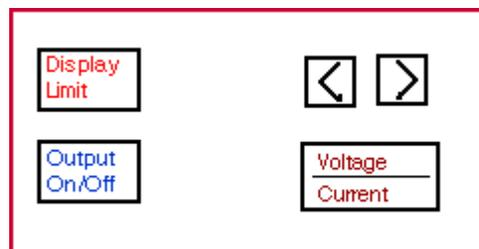

Figure 7: Front panel selections
2. Enable the outputs by pressing the **Output On/OFF** key (see Figure 7) The CV and +6V annunciators is on and +6V is selected. You can adjust the *blinking* digit to select the desired output voltage by turning the knob on the top right of the front panel. The display is in the *meter* mode, and shows the *actual* output voltage and current.